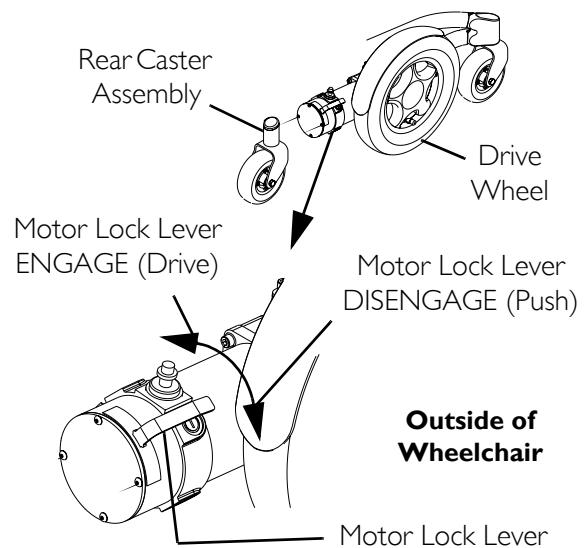

FIGURE 6.1 Disengaging/Engaging Motor Lock Levers
NOTE: For this procedure, refer to FIGURE 6.1.
1. Perform one of the following (FIGURE 6.1):